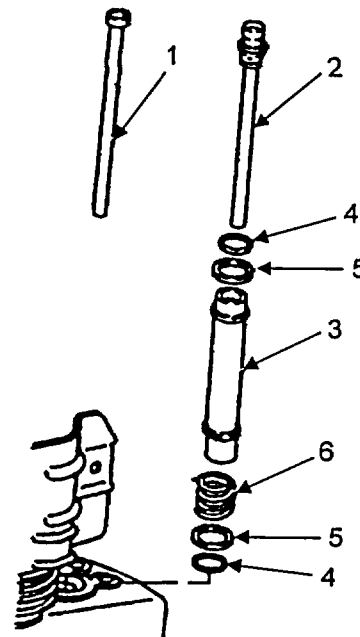
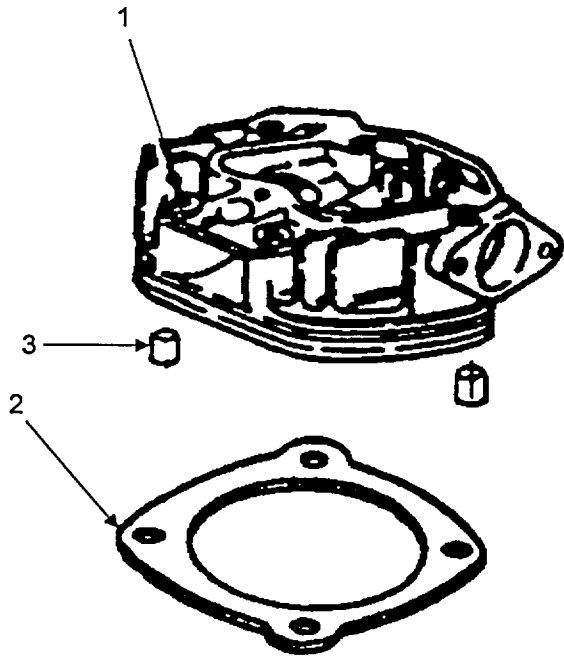
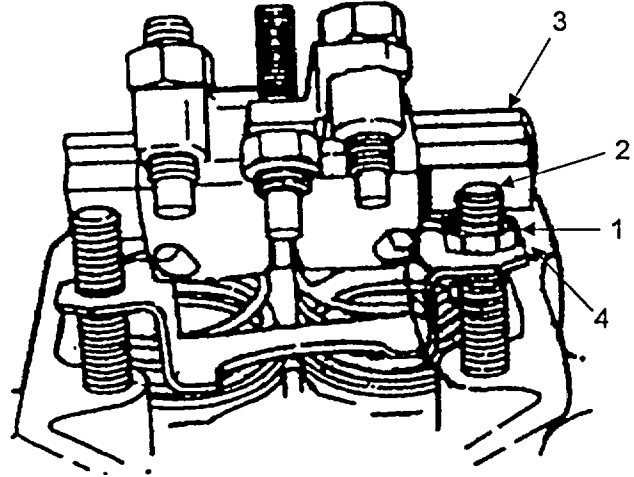

FIGURE 5-25. ASSEMBLE PUSHRODS
FIGURE 5-26. INSTALL CYLINDER HEAD
FIGURE 5-27. VALVE HEAD ASSEMBLY
a. Install new preformed packing (Figure 5-25, Item 4), shims (5), and new pressure springs (6), on protection tubes (3).
b. Install protection tubes (3).
c. Install complete pushrod (2) closest to injection pump side of engine.
d. Install pushrod (1).
a. Install two hollow dowel pins (Figure 5-26, Item 3) in bottom of cylinder head.
b. Install NEW gasket (2) on bottom of cylinder head (1).
d. Install rocker shaft (Figure 5-27, Item 3) with rockers, two air shields, and lifting eye. Install clamp (4).